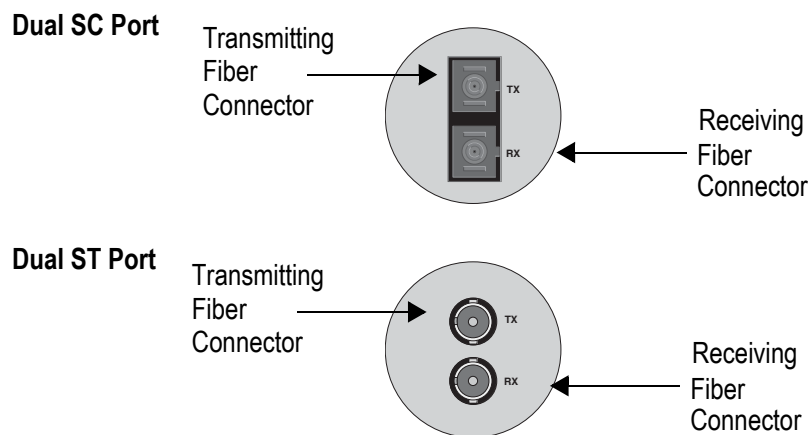

Figure 25. Dual ST and SC Port
- ❑ Dual SC and ST ports consist of two separate connectors, as shown in Figure 25. Each connects to a separate fiber strand. One is for receiving data and the other is for transmitting data. When connecting a fiber optic cable to a SC or ST port, be sure that the receiver fiber connector is connected to the transmitter connector on the remote end-node, and the transmitter fiber connector is connected to the receiver connector on the remote node.